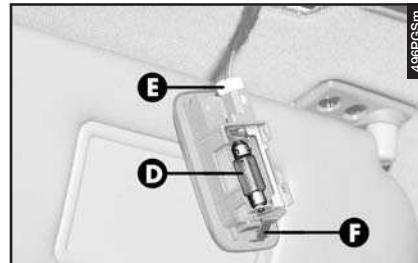

fig. 75
- Remove the bulb (**D**-fig. 75) pulling outwards and releasing from the side contacts.
- Refit the light unit firstly inserting from the side (**E**-fig. 75) and then pressing on the other side until the catch clicks into place (**F**-fig. 75).